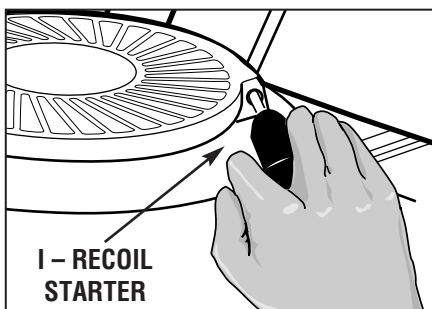

Figure 3-7
The recoil starter (I, Figure 3-7) is used to “pull-start” the engine. Detailed instructions for using the recoil starter are found in the Operation Section of this Manual and in the Engine Owner’s Manual. Do not pull the recoil starter until you have read the Operation Section.
- B.** Grasp starter rope handle (Figure 3-7) and pull slowly until rope pulls slightly harder. Let rope rewind slowly. Then pull rope with a rapid, full arm stroke. Let rope return slowly. If engine fails to start after three pulls, repeat instructions starting with Step 2 (try setting throttle at fast setting).